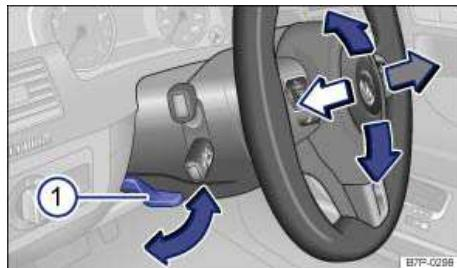

Fig. 49 Manual adjustment for the steering wheel position.
- Push down on the lever \Rightarrow fig. 49 (1).
- Always pull the lever ⇒ fig. 49 \(1\) firmly upward after adjusting the steering column so that the steering wheel does not change position suddenly while the vehicle is moving.